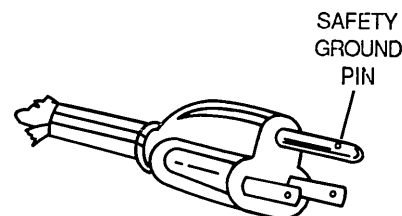

Figure 6-1. Three-Prong Grounded Plug
- h. If the power cord has a ground pin as shown in figure 6-1, do not attempt to use it with an adapter. The ground pin serves to decrease the possibility of electric shock.